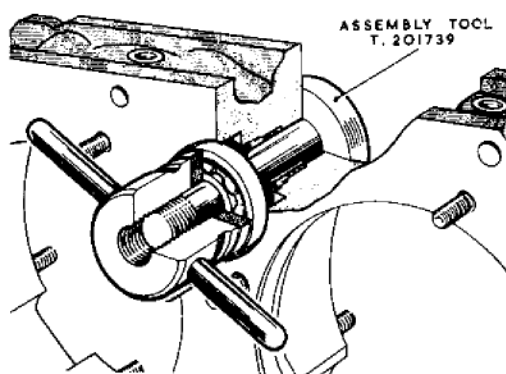

Fig. 21. Fitting the governor rotor bearing
221. Place the camplate housing vertical on the bench. Locate the bearing (51) into position with the bore of the housing. Mount the spindle piece of tool T.201739 (fig. 21) through the rotor bore from the body face end so that the base of the spindle contacts the housing. The end of the spindle is threaded and should protrude through the centre of the bearing race. Screw the T-shaped threaded boss on to the spindle to tighten so that the boss will contact the bearing and press into the housing bore. Secure with circlip.